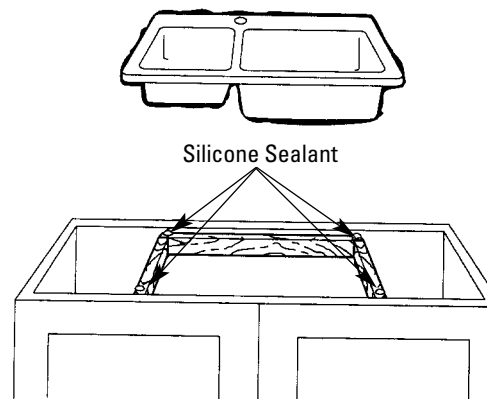

Figure 14
- Gently position the sink within the frame (see Figure 14).